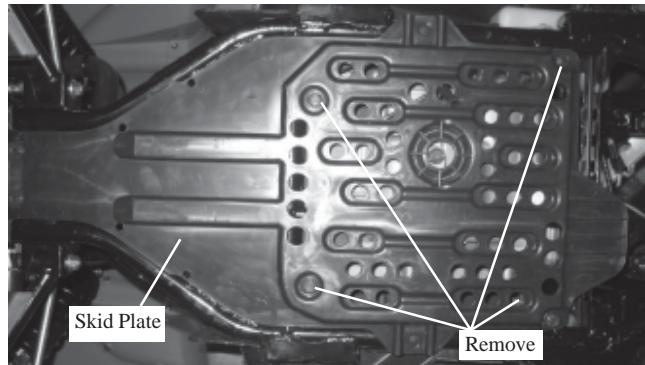

Figure 1
1. Remove the four skid plate bolts, Figure 1.